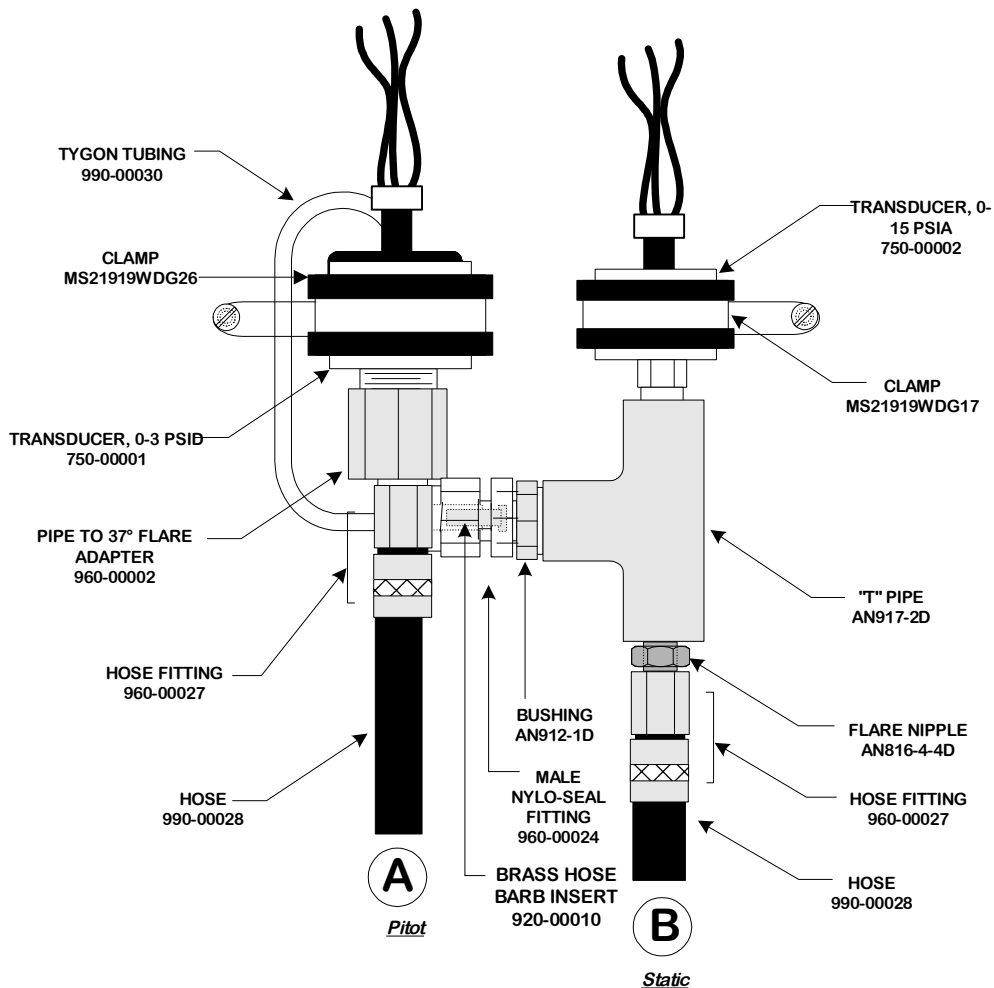

Figure C- 14: Pitot/Static Installation (Side View)
- 010 Inspect and make sure that transducer mountings are secure. Refer to Figure C- 14.
- 020 Refer to Figure C- 14. Disconnect Pitot hose (990-00028) from adaptor (960-00002).